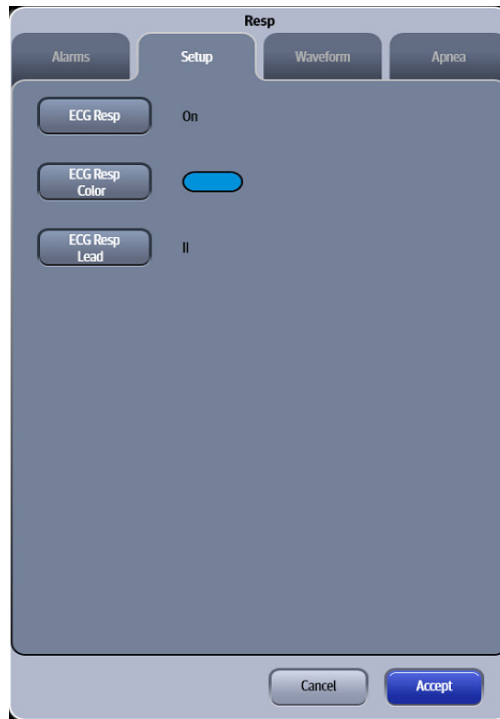

FIGURE 10-2 Example Resp Dialog (Setup Tab)
2. Select the **Setup** tab (as shown in FIGURE 10-2).